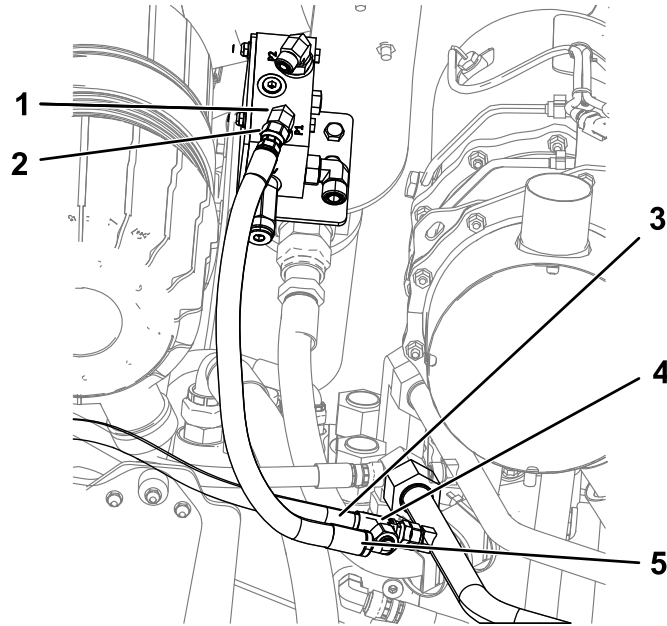

Figure 10
4. Torque the fittings (Figure 10):